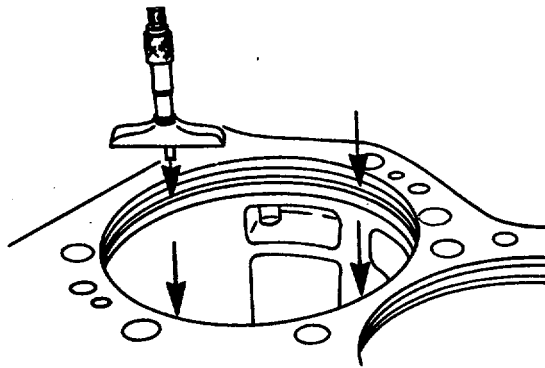

FIGURE 4-81. *Counterbore Depth Measurement.*
- (1) Measure counterbore depth with a depth micrometer at the four locations shown in FIG. 4-81. Verify measurements are within 0.001 inch (0.25 mm) of each other and are within the specifications in Table 4-8 .